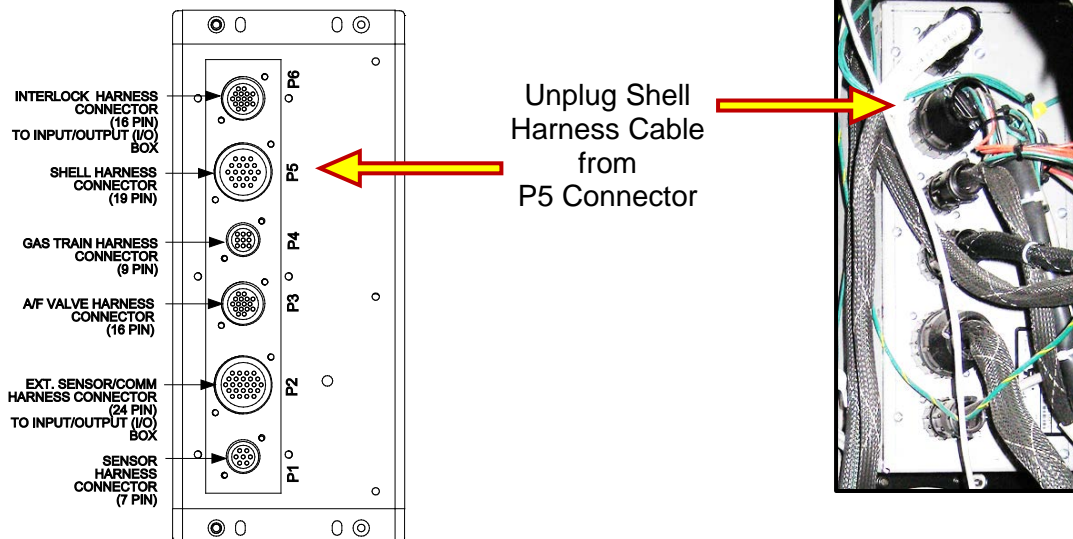

Figure 6-13: Removing Shell Harness Cable from P5 Conn. on C-More Rear Panel
2. Remove the Shell Harness Cable (male) connector from the P-5 (female) connector on the rear panel of the C-More Controller (see Figure 6-13).